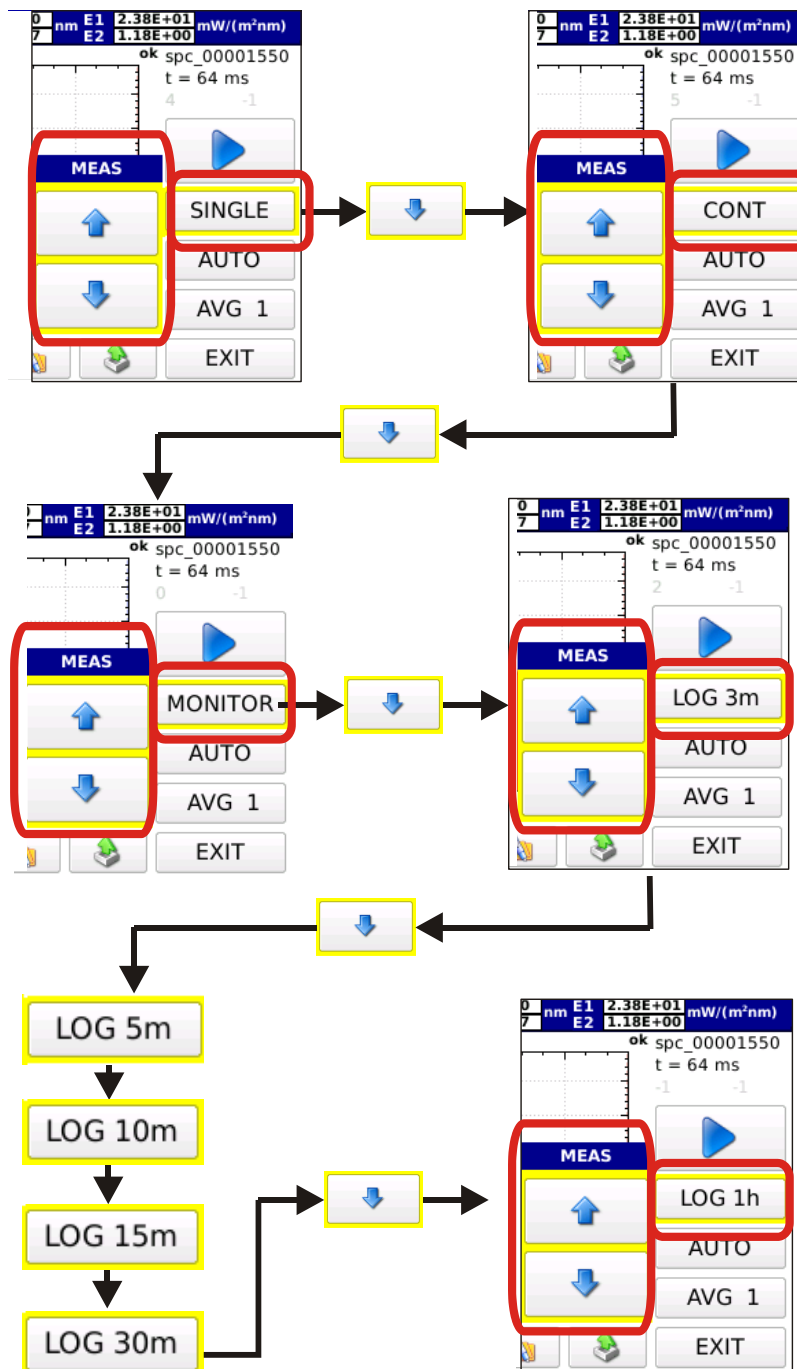

Fig. 3.18: operating mode selection using the arrow keys
3.3.1 Select the operating mode of the instrument among the four available modes (SINGLE, CONTINUE, MONITOR, LOGGING). By pressing SINGLE, the two scroll arrow cursors are displayed, pressing the down arrow makes the operating mode change as shown on Fig. 3.18.